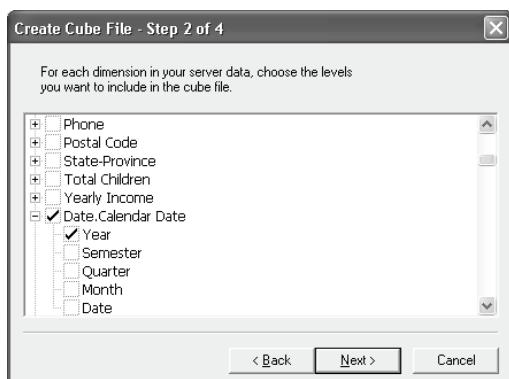

Figure 19.11 Select the dimensions and levels to be included in the cube.
- In Step 2 (Figure 19.11), select the dimensions and levels that need to be exported to the local cube. By default, the wizard has pre-selected the dimensions used in the PivotTable report and the expanded levels. Accept the defaults and click Next.